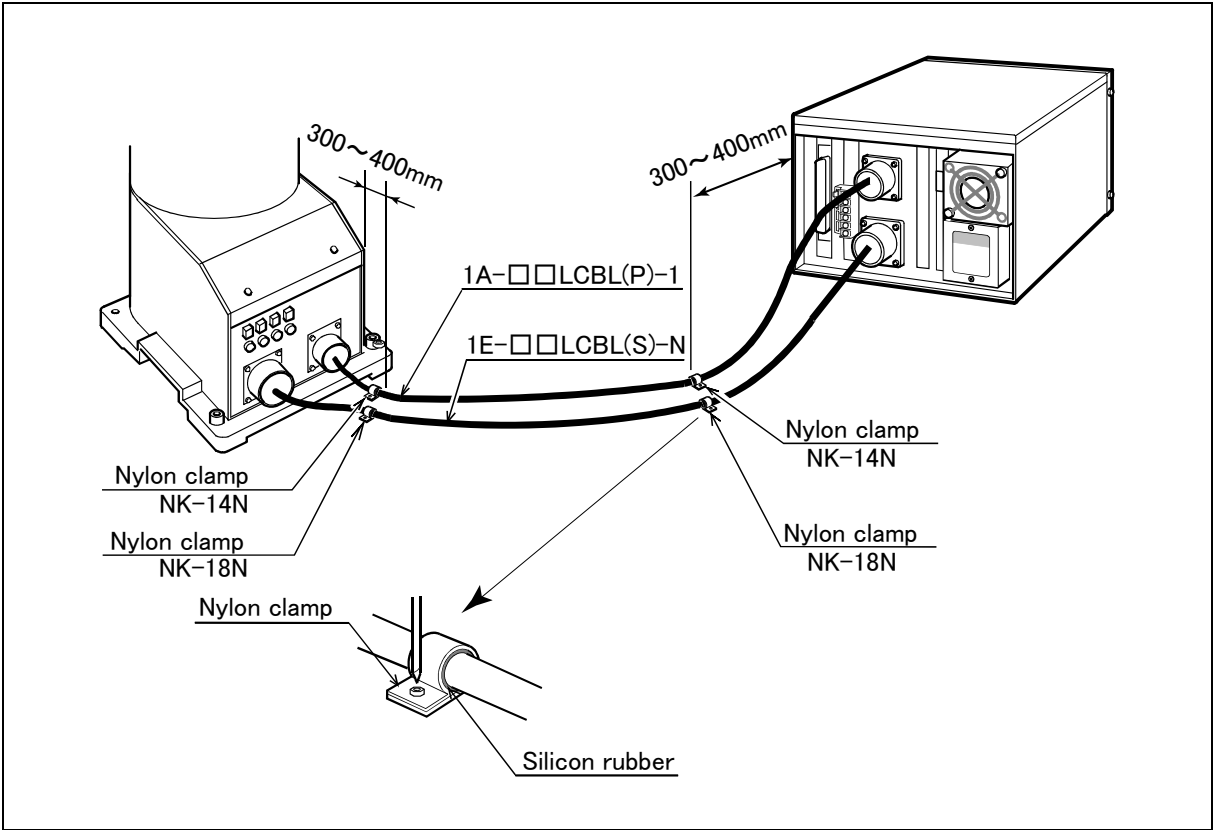

Fig.2-14 : Fixing the flexible cable
- (1) Connect the connector to the robot arm and controller.
- (2) Wind the silicon rubber around the cable at a position 300 to 400 mm from the side of robot arm and extension section as shown in Fig. 2-14, and fix with the nylon clamp to protect the cable from external stress.